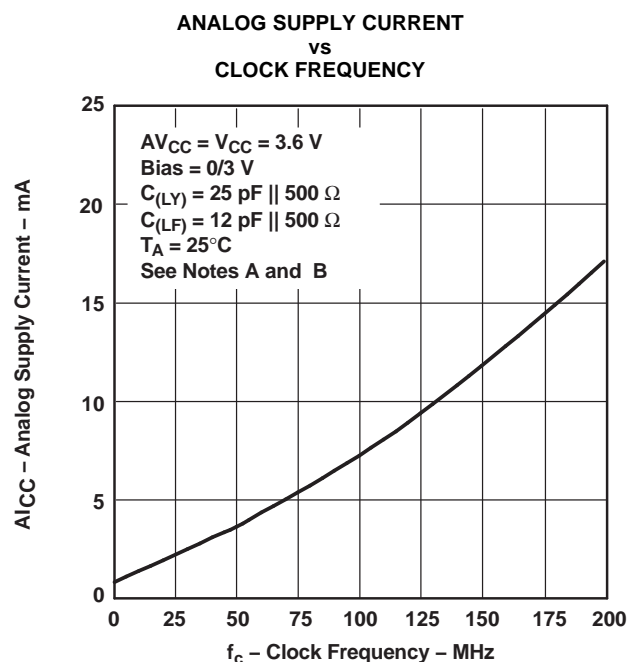
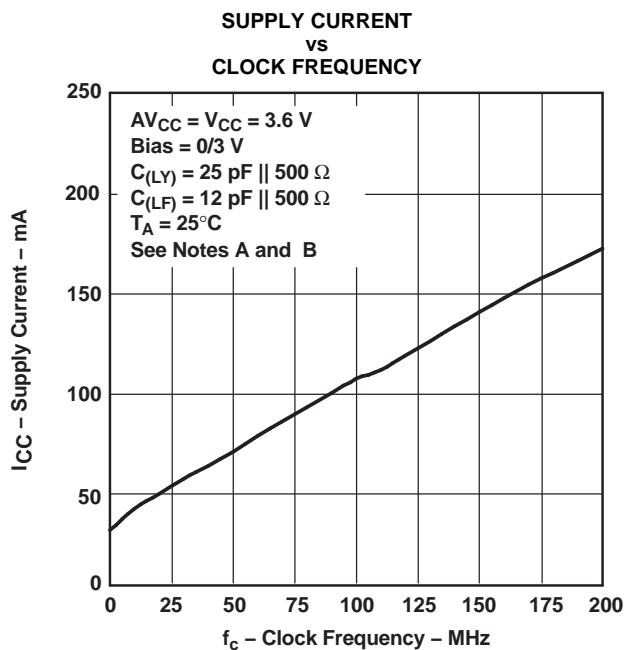

Figure 9.
Figure 10.
(1) For conditions shown as MIN or MAX, use the appropriate value specified under the *recommended operating conditions* section.
(2) For dynamic I_{CC} vs Frequency, see Figure 9 and Figure 10.